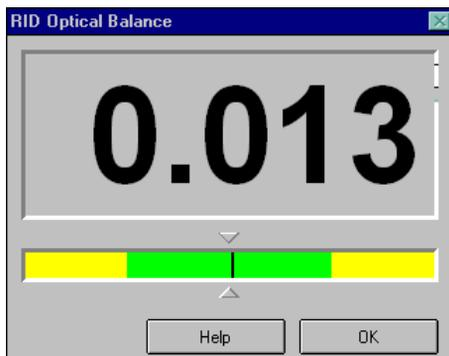

Figure 20 Optical Balance
- 1 From the user interface start the RID optical balance (see Figure 20).